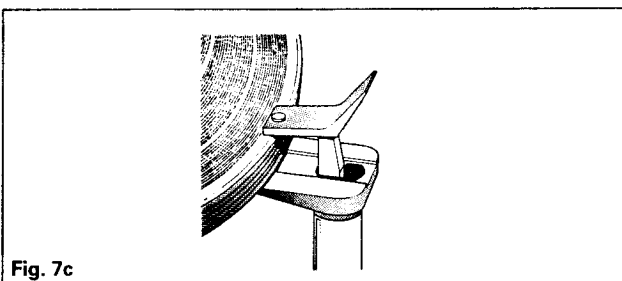

Fig. 7c
- 2 Place up to five  $33\frac{1}{3}$  rev/min, 12in records on the spindle, with the edge of the lowest record resting on the support platform (7.8). Lift the record steady until it can be swung inwards and down to bear lightly on the top of the record stack. See figure 7c.